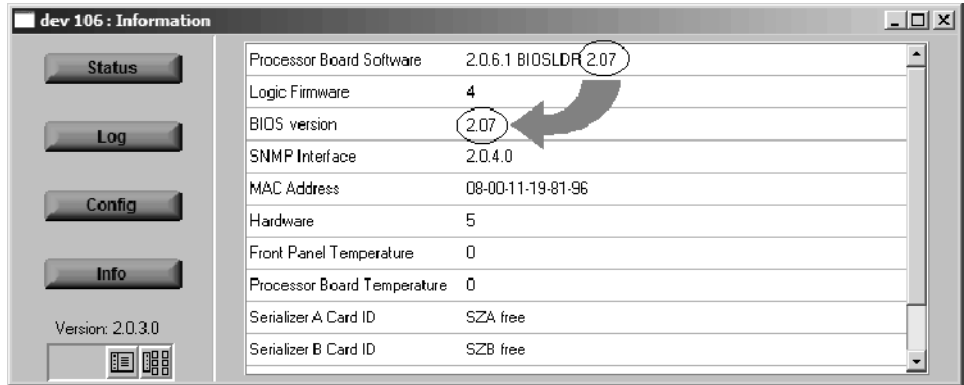

Figure 10: Verifying the BIOS version
12. Using the Device view Information screen, check that the BIOS version matches the BIOS uploader version as shown in Figure 10.